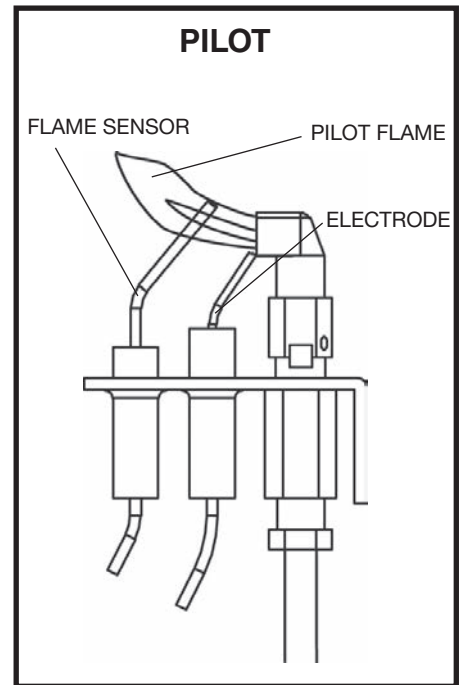
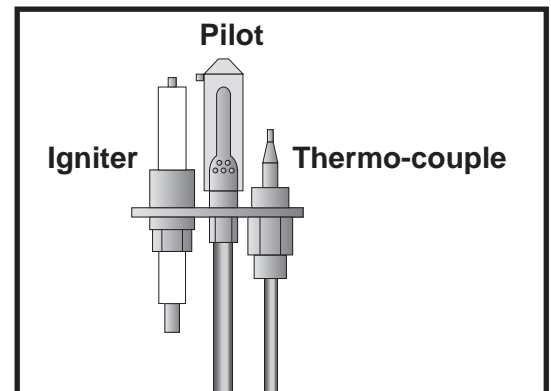

Figure 26: SIT pilot assembly.
Figure 27: Maxitrol pilot.
- Check the pilot system for proper flame size and operation. Clean pilot free of soot, dust or any other deposits (Figure 26 and Figure 27). Have a qualified service person adjust the pilot flame.